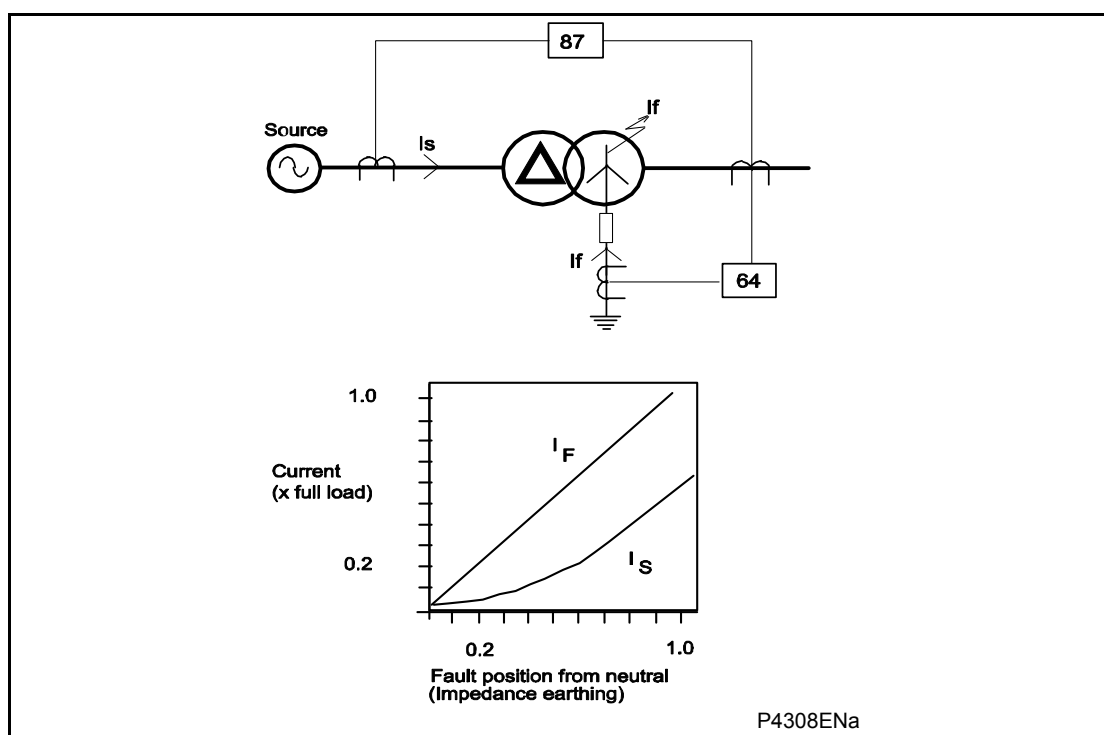

Figure 46: Fault limitation on an impedance earthed system
The levels of fault current available for relay measurement are shown below. If an earth fault is considered on an impedance earthed star winding of a Dyn transformer (Figure 46), the value of current flowing in the fault (I_f) depends on two factors. These are the value of earthing impedance and the fault point voltage, which is governed by the fault location. The value of fault current (I_f) is directly proportional to the location of the fault as shown in Figure 46. A restricted earth fault element (64) is connected to measure I_f directly, to provide more sensitive earth fault protection. The overall differential protection is less sensitive, since it only measures the HV current I_s . The value of I_s is limited by the number of faulty secondary turns in relation to the HV turns.